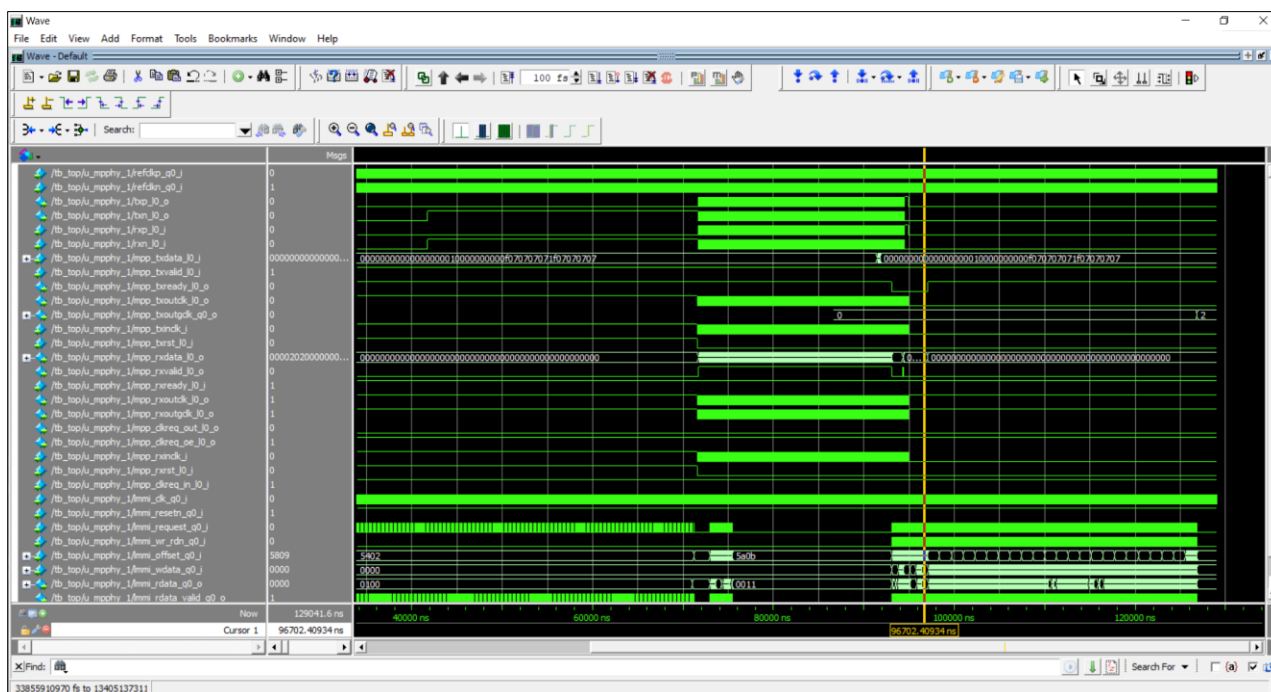

Figure 7.23. Simulation Waveform
17. The simulation run completion is indicated by *SIMULATION STATUS* of *ALL TESTS PASS* or *ERRORS DETECTED* in the QuestaSim transcript window. Figure 7.23 shows the example of a simulation waveform.